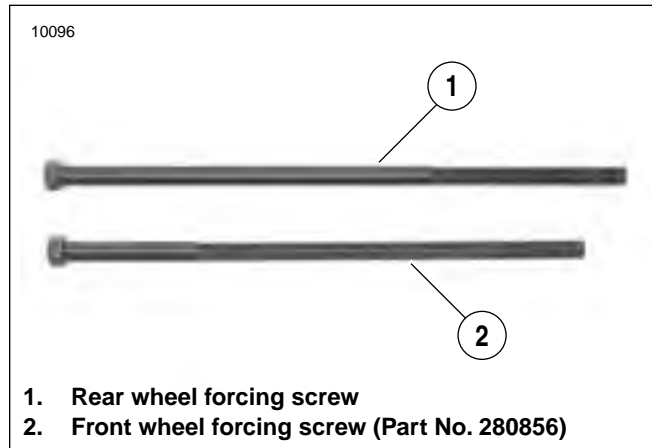

Figure 2-24. Forcing Screws Used for Front and Rear Wheel Bearing Installation
- See Figure 2-24. When installing rear wheel bearings it is necessary to use the FORCING SCREW (1) from the STEERING HEAD BEARING RACE INSTALLER (Part No. HD-39302).